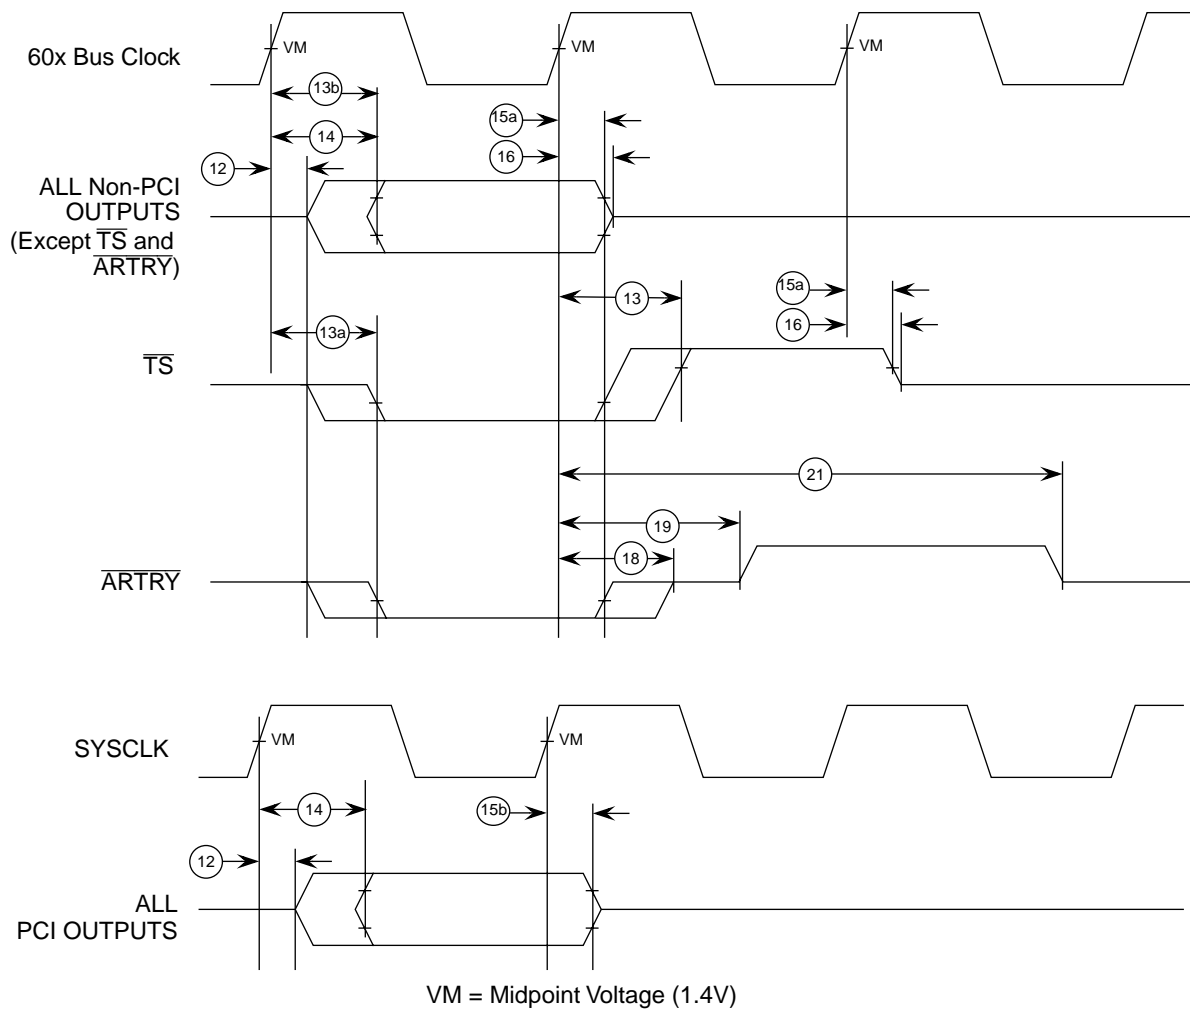

Figure 5. Output Timing Diagram
- ² Output specifications are measured from 1.4 V on the rising edge of the appropriate clock to the TTL level (0.8 V or 2.0 V) of the signal in question. Both input and output timings are measured at the pin (see Figure 5).
Figure 5 provides the output timing diagram for the 106.